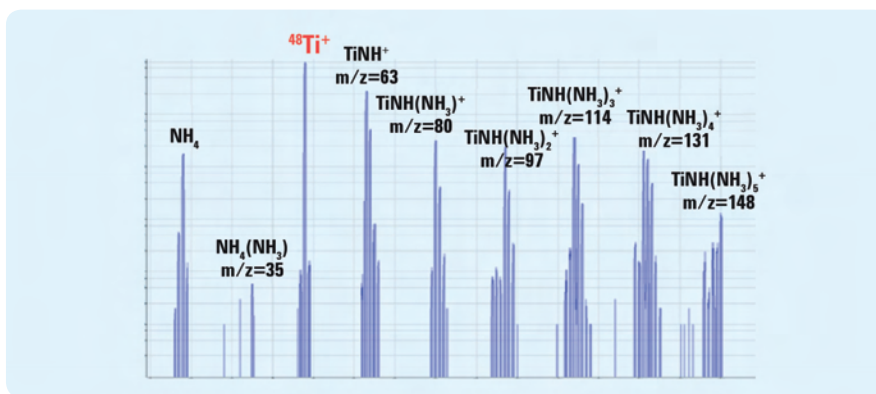

Figure 4. 8800 MS/MS mode Product Ion Scan for Ti with  $\text{NH}_3$  cell gas
The MS/MS mode Product Ion Scan in Figure 4 shows the cluster ions formed when  $^{48}\text{Ti}$  is measured using  $\text{NH}_3$  cell gas. Although many cluster ions form and the spectrum looks complex, every cluster ion peak was formed from only  $^{48}\text{Ti}$ , as all other masses were rejected by Q1. In  $\text{NH}_3$  cluster ion analysis on conventional quadrupole ICP-MS, the analytically useful Ti cluster ions,  $^{48}\text{TiNH}^+$  (mass 63),  $^{48}\text{TiNH}(\text{NH}_3)_3^+$  (114), and  $^{48}\text{TiNH}_2(\text{NH}_3)_3^+$  (115) are all overlapped by multiple other elements. For example the  $^{48}\text{TiNH}^+$  cluster is overlapped by  $^{63}\text{Cu}$ , while  $^{114}\text{Cd}$ ,  $^{114}\text{Sn}$ ,  $^{64}\text{ZnNH}_2(\text{NH}_3)_2^+$  and  $^{63}\text{Cu}(\text{NH}_3)_3^+$  all appear at mass 114.